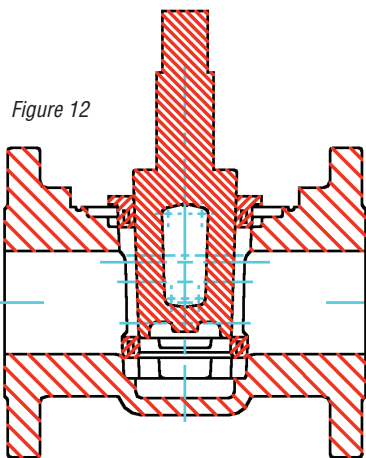

Figure 12
4. Place the plug in the closed position into the sleeve, which is in the body (See Figure 12).